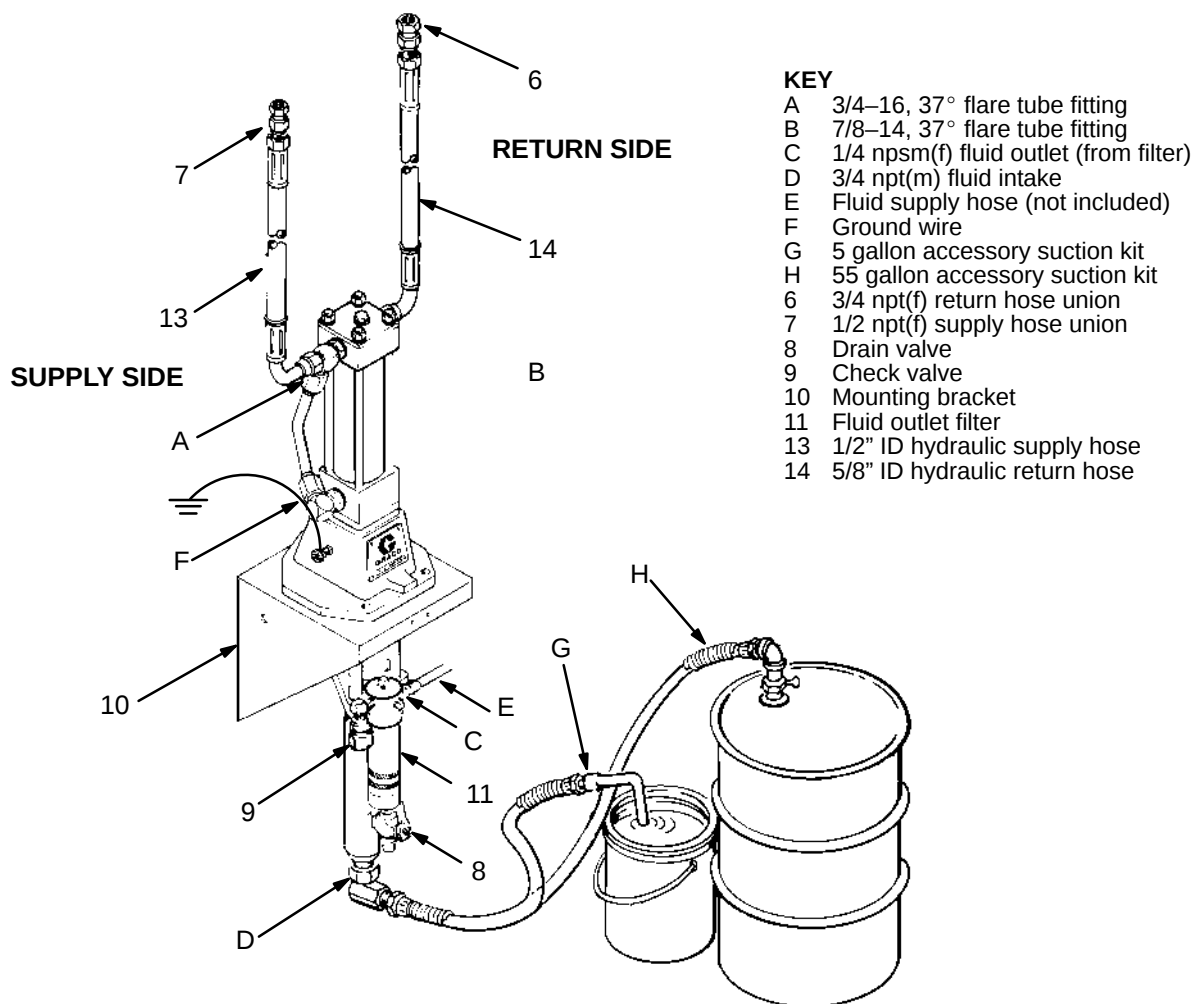

Fig 2
Connect the 1/2 in ID hydraulic supply line (2) to the 3/4–16, 37° flare tube fitting (A) of the hydraulic motor. See Fig 2. Connect a 5/8 in. ID return line (4) to the 7/8–14, 37° flare tube fitting (B). Install the hydraulic shutoff valves in the supply and return lines for use when removing the pump for inspection or service.
Attach the suction hose (17 or 28) to the 3/4 npt fluid intake of the pump (D). See Fig 2. Place the other end of the suction tube into the drum, as shown.